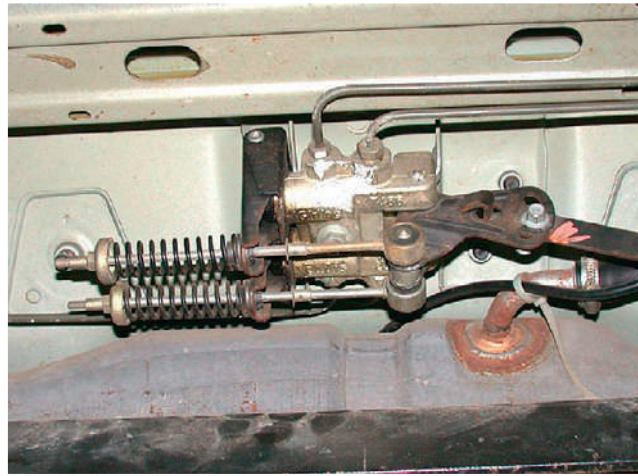

Figure 4.115 Load apportioning valve
- load-apportioning valve (Fig. 4.115)